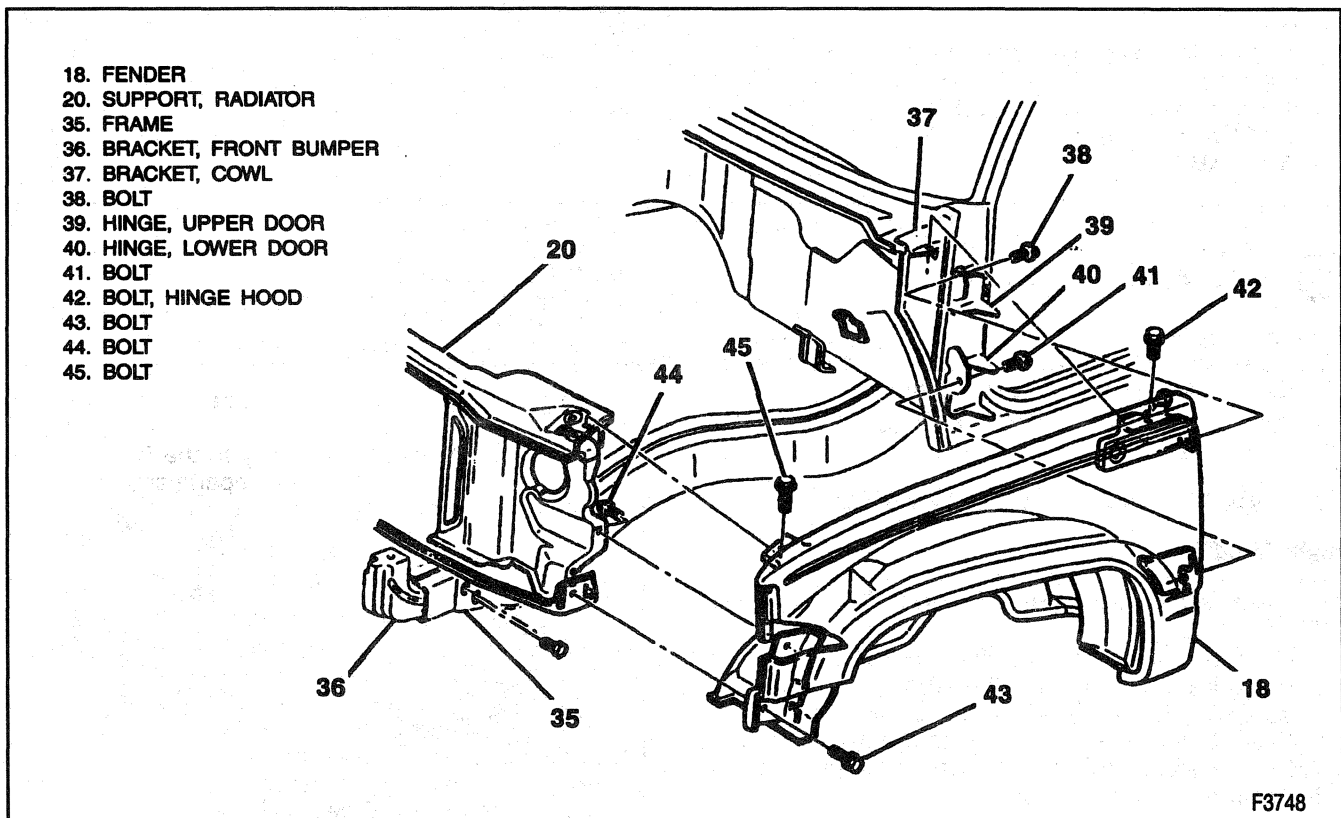

Figure 10—Fender to Vehicle Attachment
14. Bolt by reaching up behind the wheelhouse (Figure 10).
6. Bolt by reaching up behind the wheelhouse (Figure 10).
12. Bolt by reaching up behind the wheelhouse (Figure 10).
14. Bolts holding the fender to the door hinges (Figure 10).
2. Bolts from inside the engine compartment (Figure 10).
- 6. Bolt by reaching up behind the wheelhouse (Figure 10).